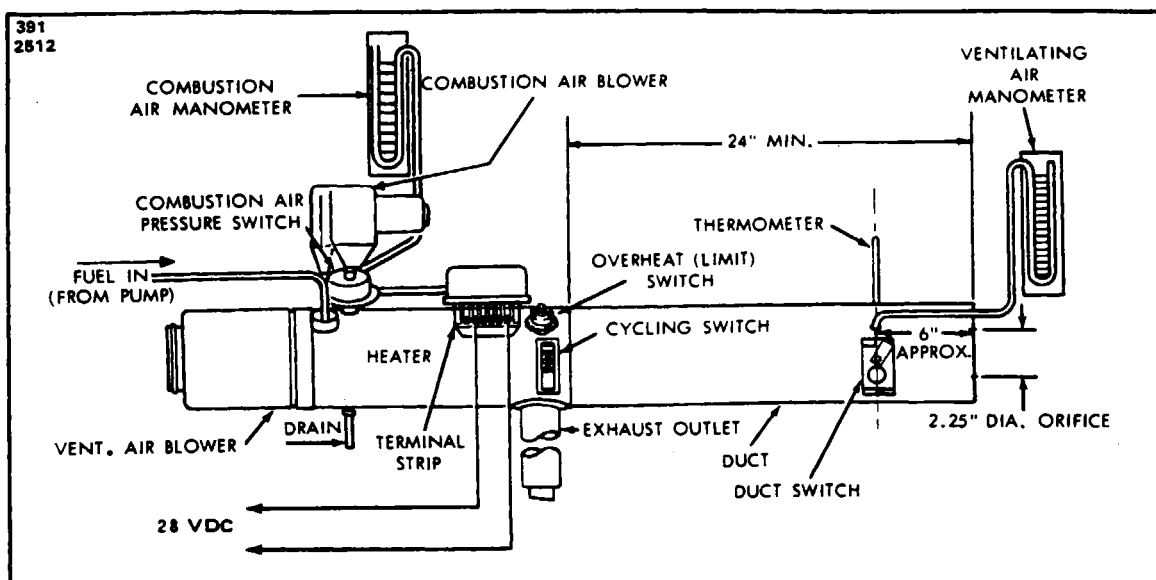

Figure 13-49. Suggested Setup for Heater Operation Test
13-179. EQUIPMENT REQUIRED. (Refer to Figure 13-49.)
f. A piece of duct to be attached to the downstream end of the heater. It should have a minimum length of 24 inches and the same diameter as the heater being tested. A 2.25 inch diameter orifice should be centrally located at the outlet end. An aperture should be provided for the thermometer and duct switch and a static tap should be attached as shown in Figure 13-49.
13-180. OPERATIONAL TEST. (Refer to Figures 13-49 and 13-50.)
a. Connect the heater to the test setup as shown in Figure 13-49. Make sure the combustion air blower is mounted securely and that the heater is clamped to its supporting stand.
b. Insert the duct switch in the sheet metal extension tube at the location shown in Figure 13-49.